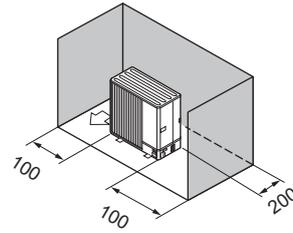

Fig. 1-8
- (3) Obstructions or closed surfaces at rear and sides only (Fig. 1-8)